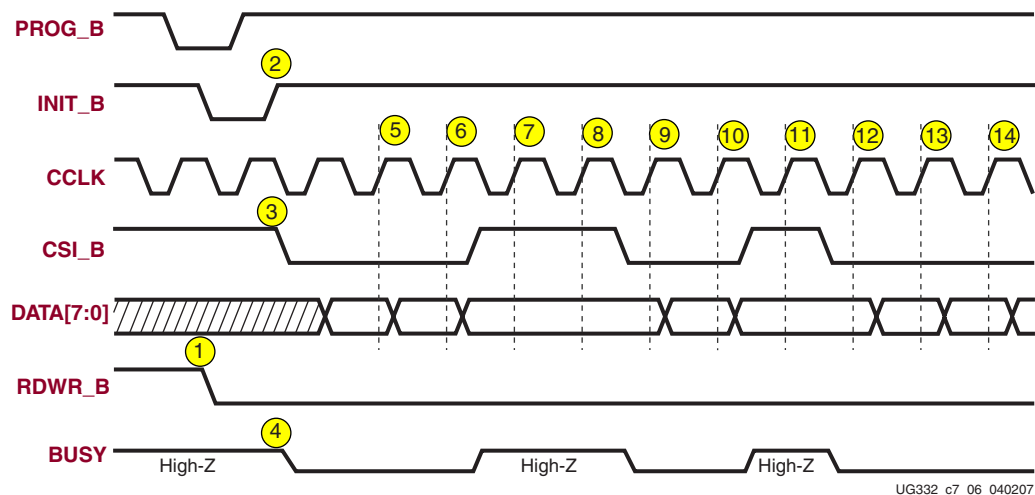

Figure 7-6: SelectMAP Non-Continuous Data Loading with Controlled `CSI_B`
1. Deassert the `CSI_B` signal with a free-running `CCLK`, shown in Figure 7-6 and described in “Deasserting `CSI_B`,” page 175.
The following numbered items correspond to the markers provided in Figure 7-6.